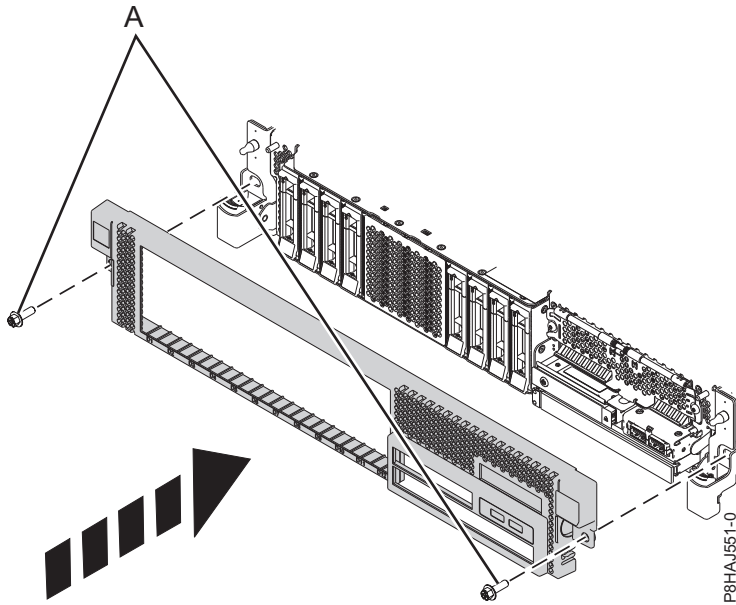

Figure 12. Installing the front cover
3. Close the release latches by pushing in the direction shown in Figure 12 on page 28. The cover snaps into place and has an indentation where you can hold onto it more easily.
4. Replace the shipping screws (A).